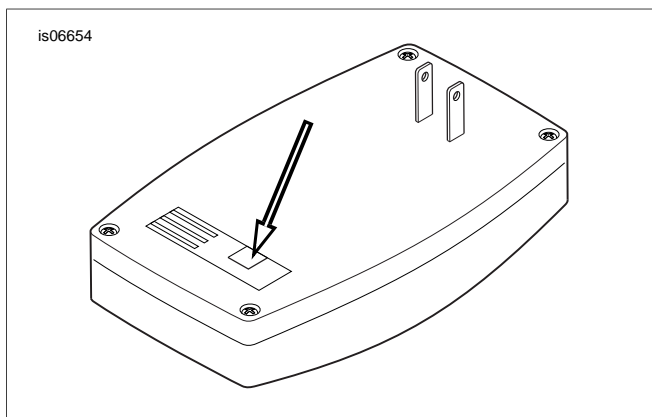

Figure 1. Garage Door Opener Receiver, Back View
7. See Figure 1. Plug the connector on the Harley-Davidson garage door opener receiver cable assembly into the back of the Harley-Davidson garage door opener receiver in the location shown.